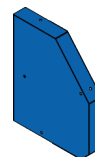

Fig. 13: Belt cover (271-01)
- Belt cover – Standard (271-01) (Fig. 13)